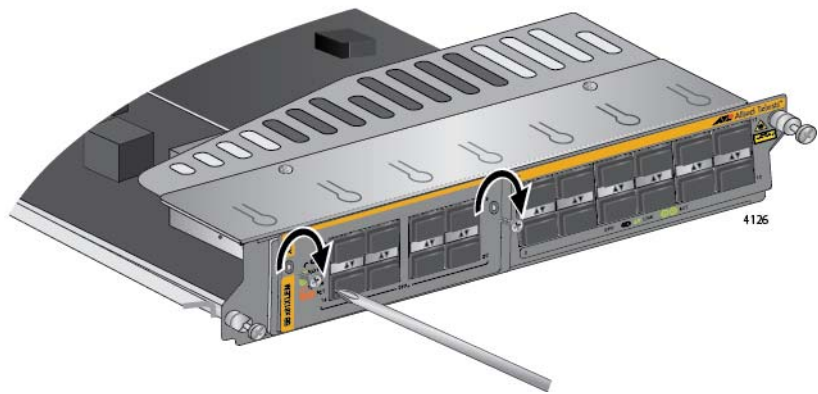

Figure 85. Securing the Expansion Module
10. With a Phillips-head screwdriver, install the two screws from step 4 to secure the expansion module in the line card. Refer to Figure 85.